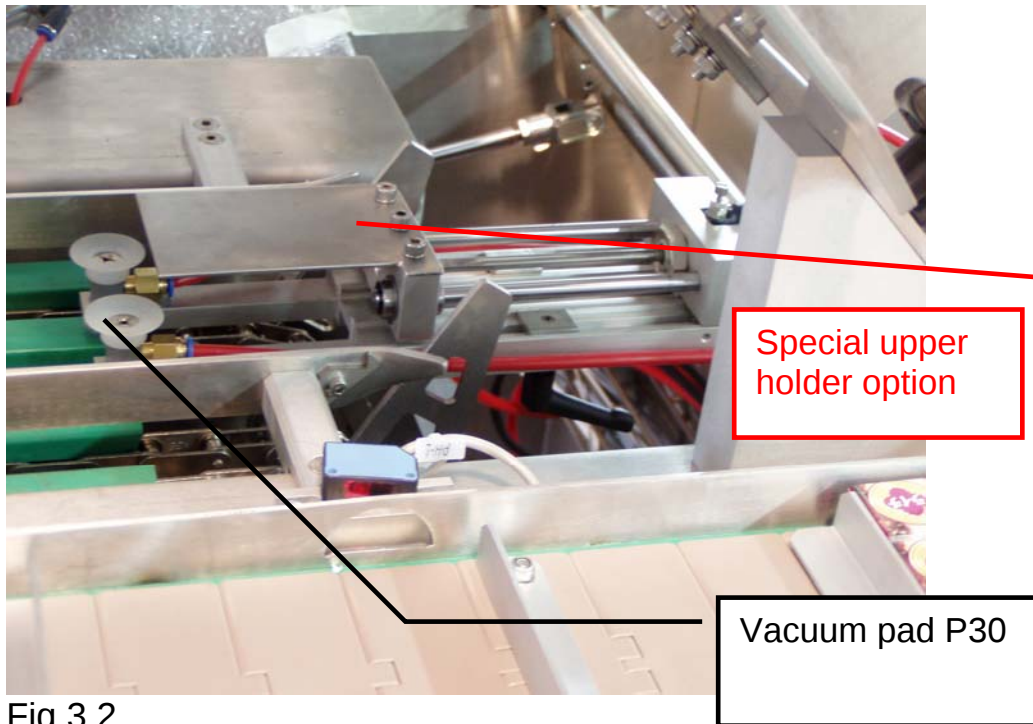

Fig 3.2
3.4. Adjust the vacuum pad (A1-A2) as Fig 3.2 the edges of the pad have to be 3-5 mm down from the folding line.